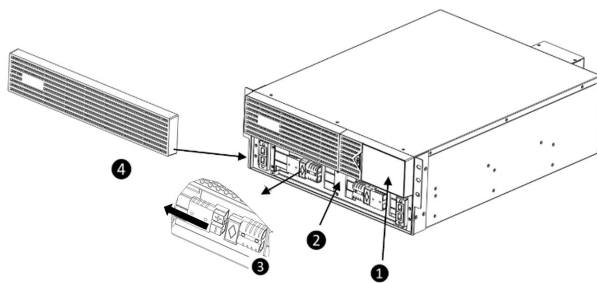

Figure 1
- 1) Expose the battery module by removing the front cover. The cover is anchored using a tension clip. Simply hold the side and pull directly away from the UPS housing. (Figures 1 and 2)
- 2) Separate the black Anderson battery module connections. There are two on the ED5KRT and ED6KRT. There are four on the ED8KRT and ED10KRT. (Figures 1 and 2)